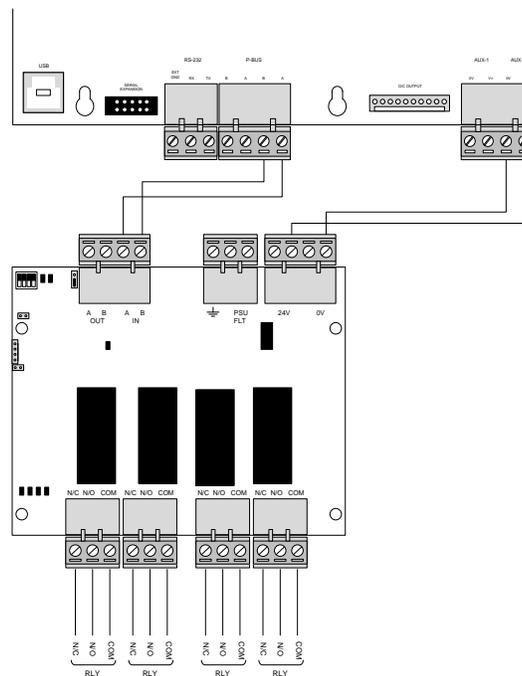

Figure 41 - NX-EM-RL4 NEO Enclosure Mounting
The NX-EM-RL4 can either mount onto the four (4) standoffs located on the left-hand side of the NEO enclosure below the NX-CTL base card (see figure 41) or within an NX-FA-009 enclosure (see figure 42).